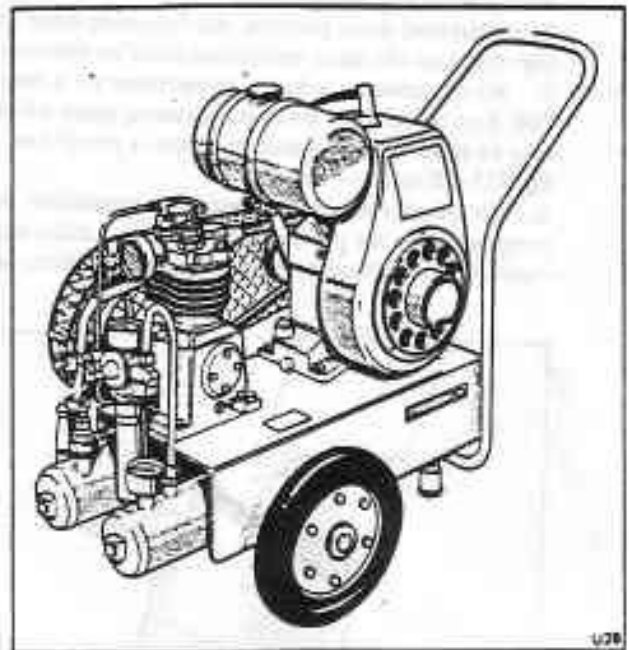

Fig. S17-18 Petrol driven portable air compressing plant for one operator
1. Air compressor. Initially, compressed air is required. This is obtained from an air-compressing plant which may be powered by an electric motor, a petrol (see fig. S17-18) or diesel engine.